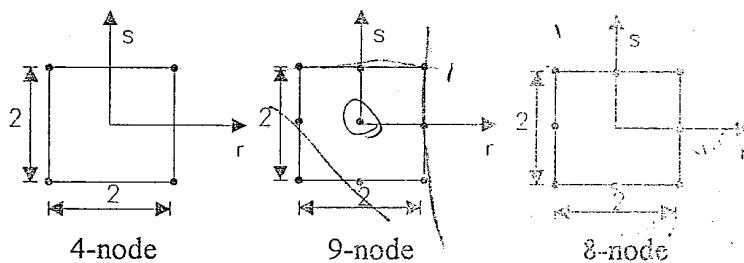

Fig.1
1. Please write the shape functions of 4-node, 9-node and 8-node square elements shown in Fig.1, and illustrate your method (procedures) to get those shape functions.